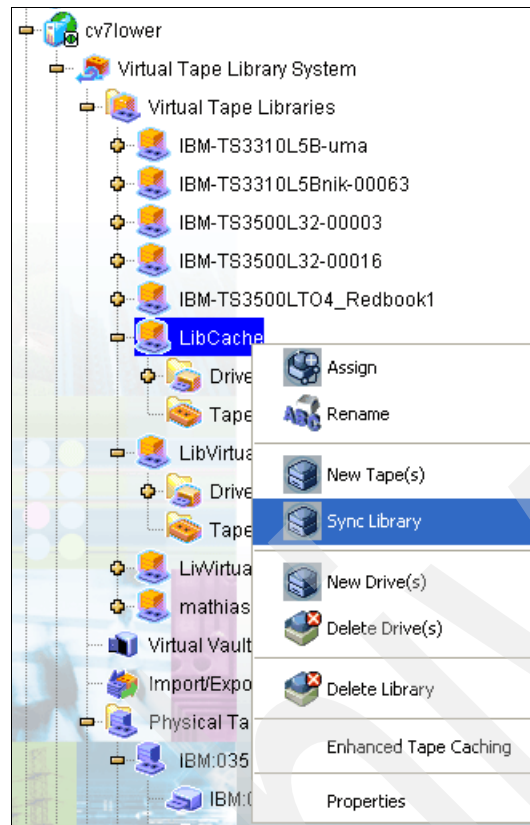

Figure 12-44 Select Sync Library
1. Right-click your virtual tape library and select **Sync Library** (Figure 12-44).